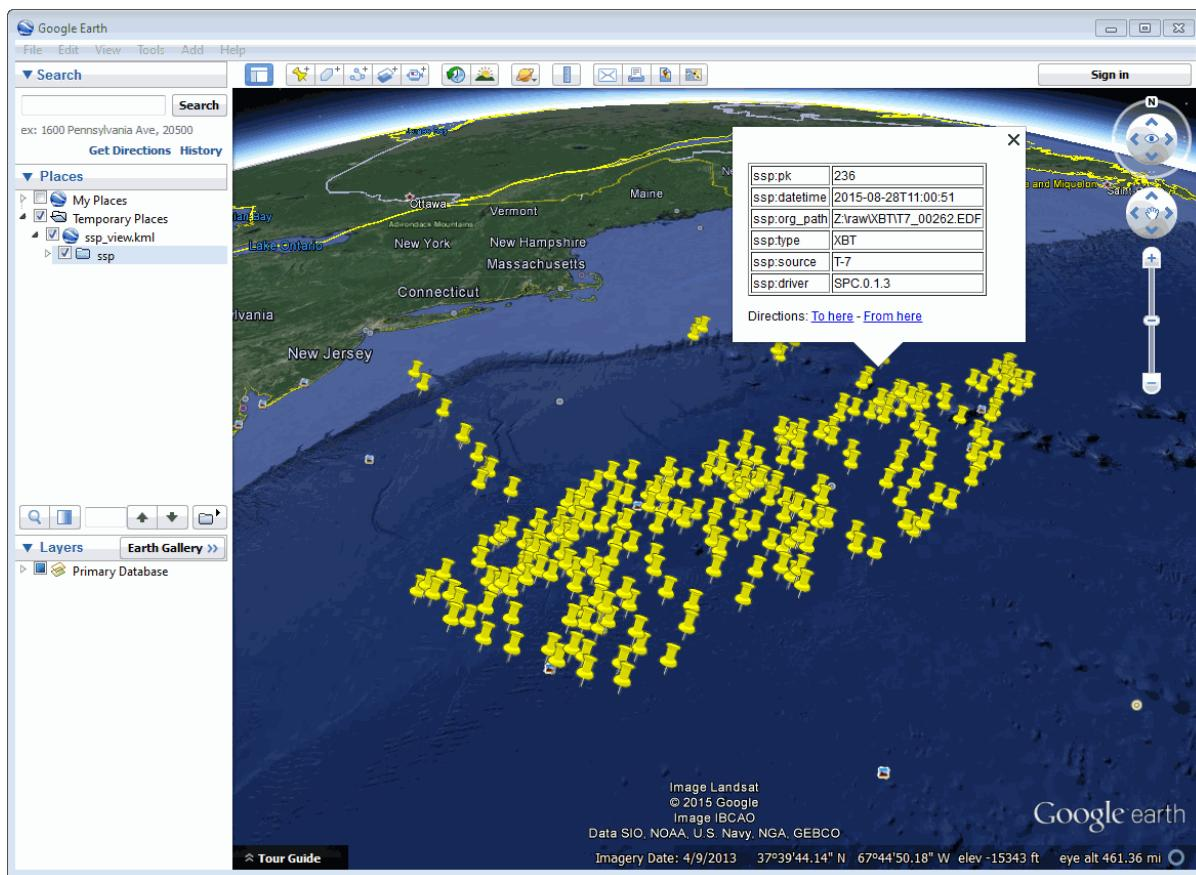

Fig. 2.54: Loading result of the exported metadata (kml format) in Google Earth.
- Export the profile metadata in several geographic formats: csv, kml, shapefile (e.g., Fig. 2.54), and